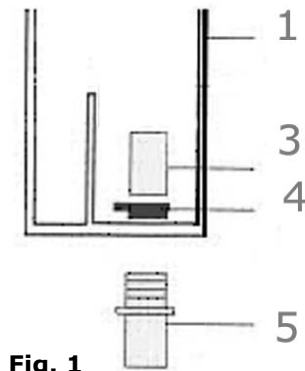

Fig. 1
1. Put the tank screwing into the hole in the bottom of the overflow box (see Fig. 1).